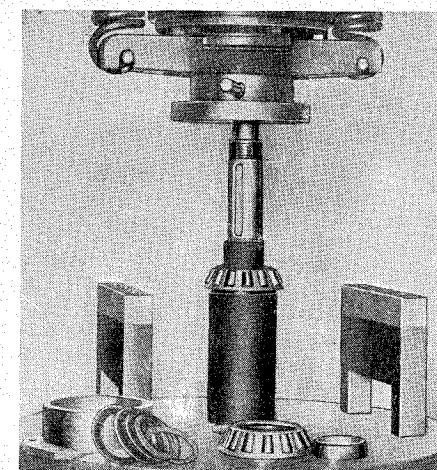

Fig. 52.
8. Using a hand press, press off the rear inner race of the taper roller bearing from the pinion (see Fig. 52).